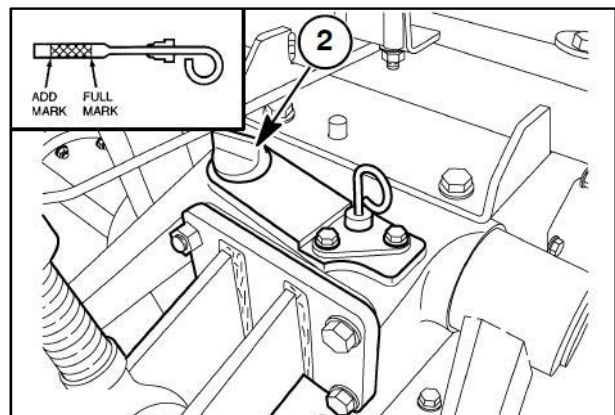

Figure 3-20
2. Remove the filler plug (2) in Figure 3-20, and fill with new oil of the type specified page 3-5. The transmission is filled to the correct level when the oil registers between the two marks on the dipstick. Do not fill above the dipstick full mark.